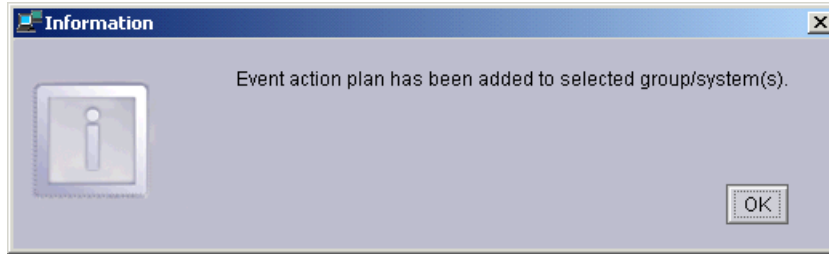

Figure 5-11 Event action plan added
15. In either case, a pop-up window will appear notifying you that the event action plan has been added (Figure 5-11 on page 196).